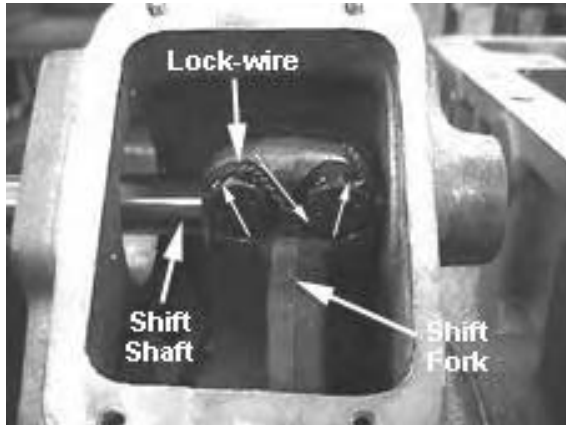

Fig. 77
34. Install the shift shaft into the housing and declutch fork. Align the notches in the shaft with the holes in the fork. Install bolts. Torque to spec. and lock-wire as shown. See Fig. 77.